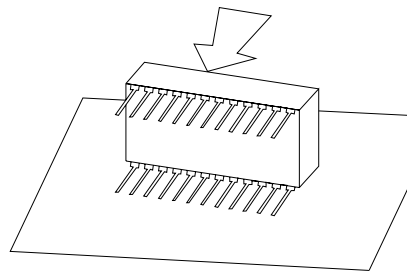

Figure 3 Aligning the Chip Pins
10. Inspect the new EPROM and verify that the pins are aligned. Place the EPROM over the S4 socket and verify that the pins are spread correctly so that they seat easily. If bending the pins is necessary, place the chip on its side on a flat surface. Gently press the top edge of the chip to bend the pins under the chip (figure 3).